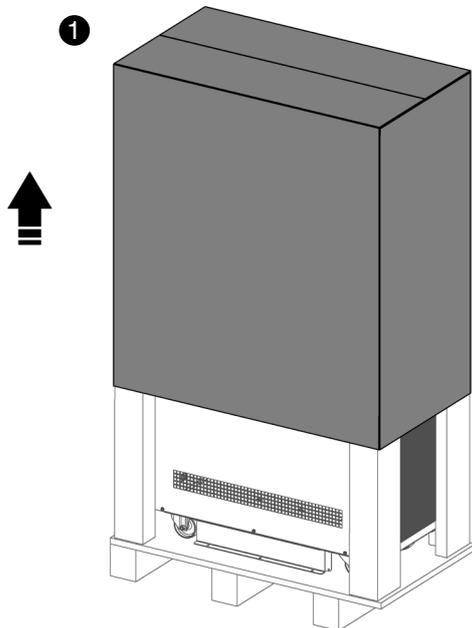
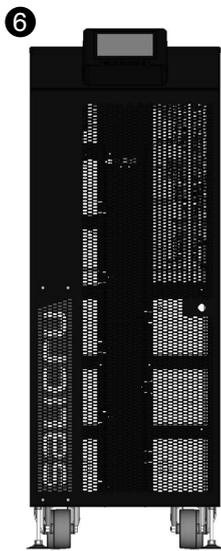

Fig. 22. Removing the cardboard packaging.
Fig. 27. Example of an unpacked unit.
In Fig. 22 to Fig. 27 are shown, by way of example, the illustrations corresponding to the unpacking of the UPS cabinet from 30 kVA to 40 kVA.
- 1 To unpack the equipment, cut the strips of the cardboard enclosure and remove it from above as if it were a cover (Fig. 22) or disassemble it with the necessary tools if the enclosure is made of wood.
- 6 Equipment unpacked in its final location (Fig. 27).